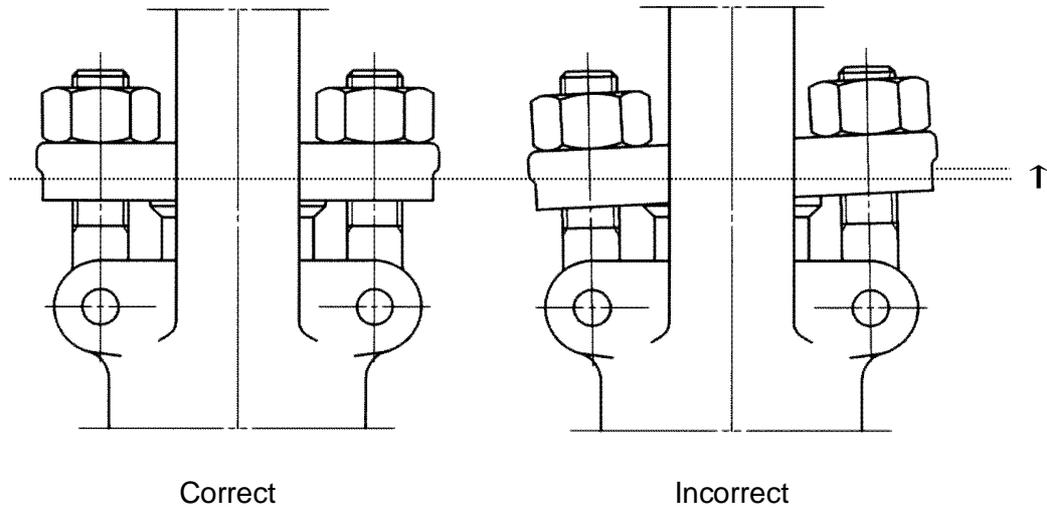

Figure 7.3 Examples for Adjustment (Tightening) of Gland Bolt Nuts
- 5) When tightening up the gland bolt nuts, the handwheel should be turned now and then so to adjust the tightness of the gland packing, as shown in Figure 7.3. Tightening up the gland bolt nuts gradually and uniformly in order to avoid tendency to twist.
- 4) When tightening up the gland bolt nuts, the hand wheel should be turn now and then so to adjust the tightness of the gland packing, as shown in Figure 7.3. Tightening up the gland bolt nuts gradually and uniformly in order to avoid tendency to twist.